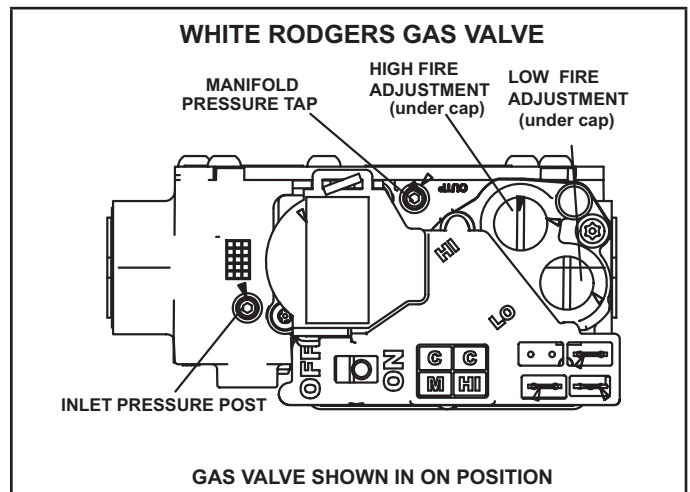

Figure 62
#### Gas Valve Operation (Figure 62)
- 6 - Move gas valve switch to OFF. See figure 62.
- 8 - Move gas valve switch to ON. See Figure 62.
An inlet post located on the gas valve provides access to the supply pressure. See Figure 62. Back out the 3/32 hex screw one turn, connect a piece of 5/16 tubing and connect to a manometer to measure supply pressure. See TABLE 21 for supply line pressure.
A manifold pressure post located on the gas valve provides access to the manifold pressure. See Figure 62. Back out the 3/32 hex screw one turn, connect a piece of 5/16 tubing and connect to a manometer to measure manifold pressure.
- 5 - If necessary, make adjustments. Figure 62 shows location of high fire and low fire adjustment screws.